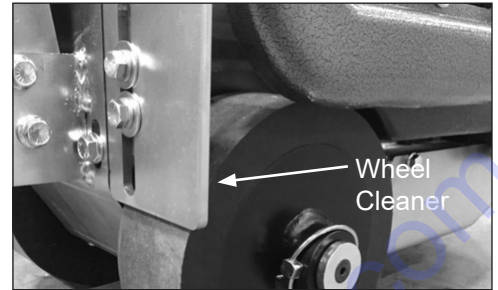

FIG. 12
1. Loosen wheel cleaner with 9/16" wrench (Figure 12).
1. Drain tank by removing the top filler port cap and drain plug on the side of the machine (Figure 12). A two gallon container will be needed to drain the fluid into.